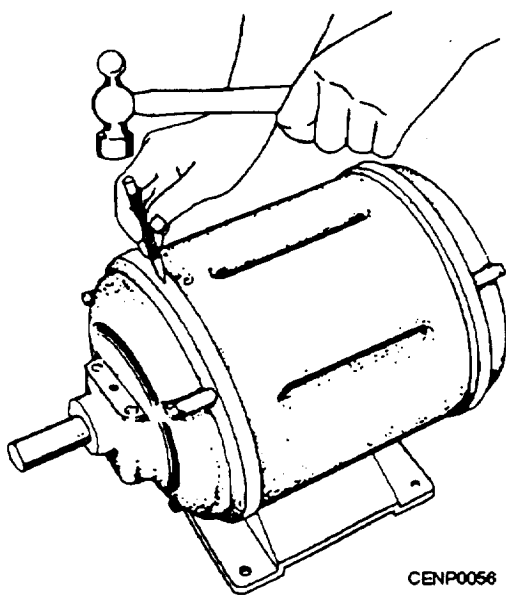

Figure 7-56.—Punch marking motor frame and end bells.
1. Punch mark the frame and end bells for reassembly purposes (fig. 7-56).